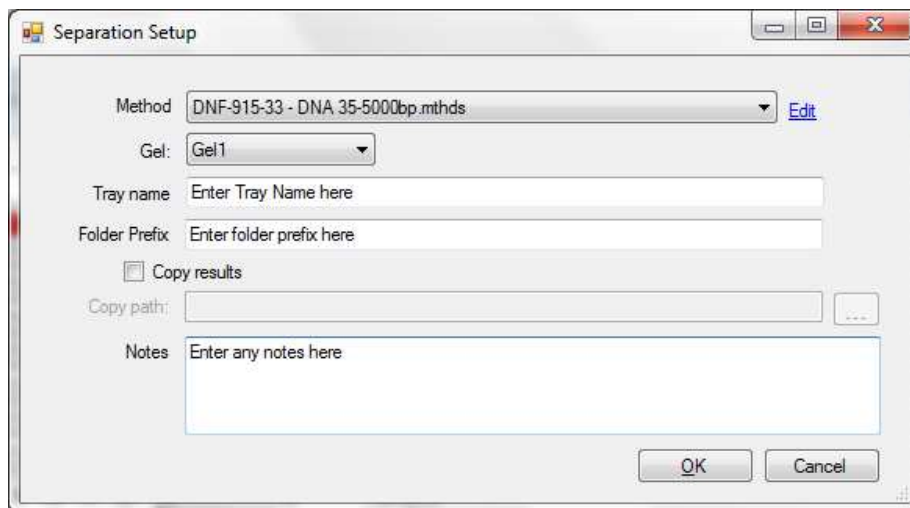

Figure 4. **Separation Setup** form to select experimental Method and enter tray/folder information
3. After sample information for the row or plate has been entered, under the **Run Selected Row** field press **Add to queue**. The **Separation Setup** form will be displayed enabling the user to select the experimental method and enter additional information (Figure 4).
11. On 96-capillary systems, or in 12-capillary systems if the entire 96-well sample tray is to be run using the same experimental method, under the **Run Entire Tray** field press **Add to queue**. A form similar to Figure 4 will be displayed for entering information and adding the run to the instrument queue for the entire 96-well sample tray.
2. Administrator level operators can **Edit** certain steps of the experimental method. To open the method editor screen, press the **Edit** link from the **Separation Setup** screen (Figure 4). The method editor screen is displayed, showing the steps of the method (Figure 6).